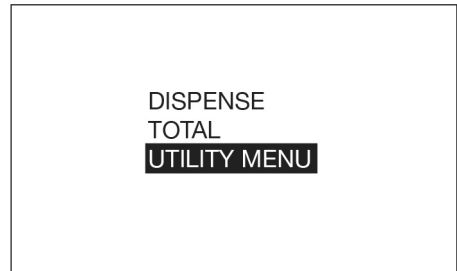

FIG. 17
- Select the **UTILITY MENU** option (FIG. 17).